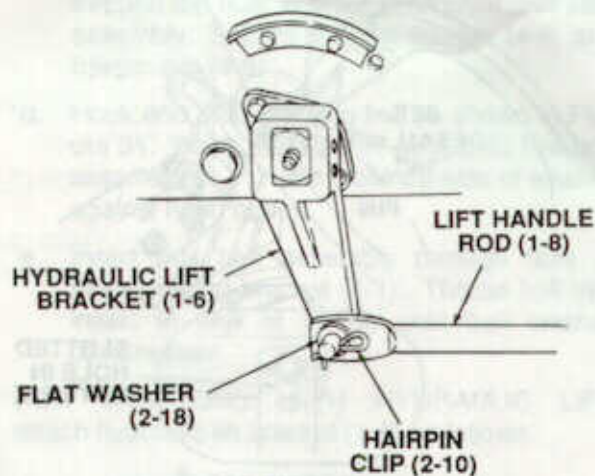

Figure 38
- d. FOR TRACTORS WITH HYDRAULIC LIFT, adjust lift handle rod until hole in end of rod lines up with pin on lift bracket. Secure with flat washer (2-18) and hairpin clip (2-10). Refer to Figure 38.